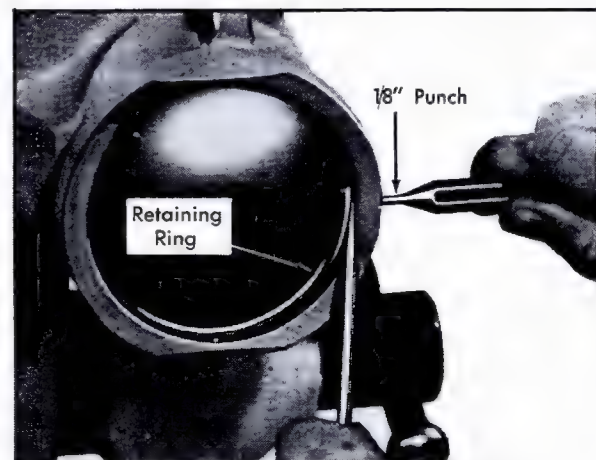

Fig. 9-21 Removing End Plate Retaining Ring
2. Rotate gear housing end plug retaining ring so that one end of ring is over hole in housing. Spring one end of ring with punch to allow screwdriver to be inserted to lift ring out, Fig. 9-21.